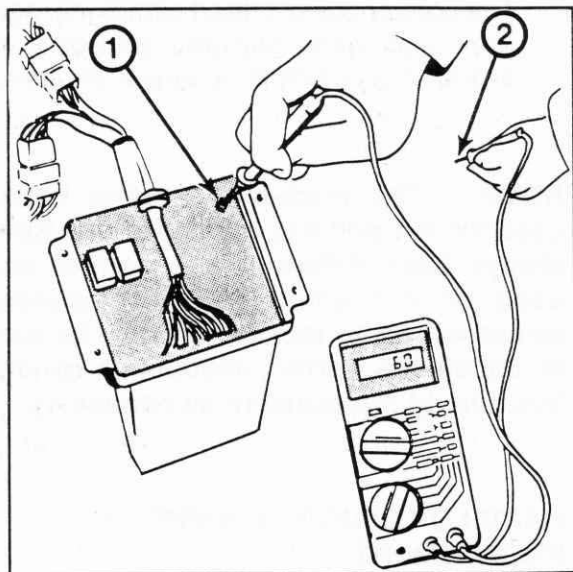

Figure 4-205
2. Connect a digital or analog voltmeter, as shown in Figure 4-205. Set the meter to a scale that will accurately read 0 to 10 volts D.C.